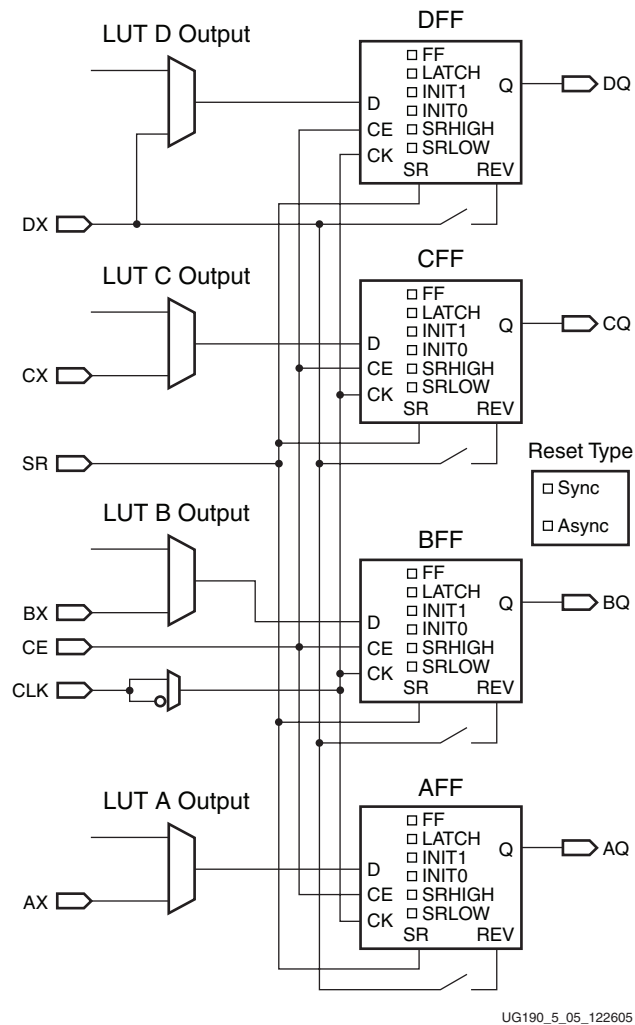

Figure 5-5: Register/Latch Configuration in a Slice
The SR signal forces the storage element into the state specified by the attribute SRHIGH or SRLow. SRHIGH forces a logic High at the storage element output when SR is asserted, while SRLow forces a logic Low at the storage element output. When SR is used, an optional second input (DX) forces the storage element output into the opposite state via the REV pin. The reset condition is predominant over the set condition (see Figure 5-5).